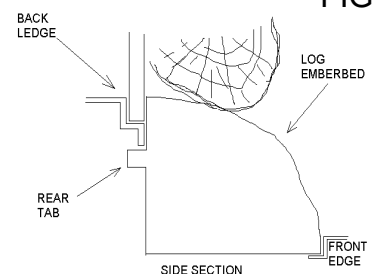

FIGURE 8
11. Replace the logset by inserting the front of the emberbed under the front edge of the fireplace and push down on the rear edge of the emberbed until it snaps into place (FIGURE 8).